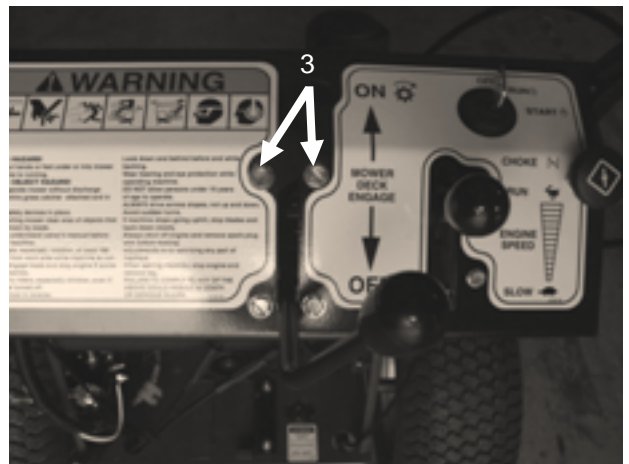

Figure 51
3. Using a 3/8 wrench, remove the 4 mounting screws **Figure 51**.